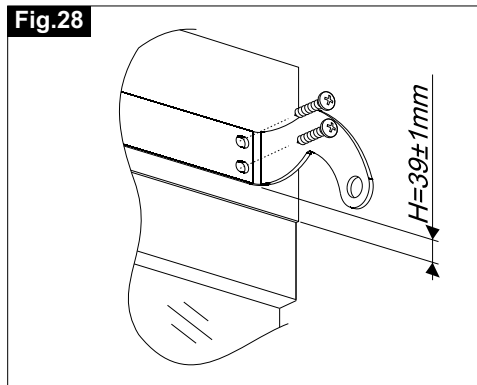

Fig.29
- 5) **Fig.29-** Align the bottom hung bracket with the centre line of the window using as reference the central hole of the fastening screws (**Ref.1**) and position the bottom hung bracket at 4 mm from the frame, then mark the drilling points;